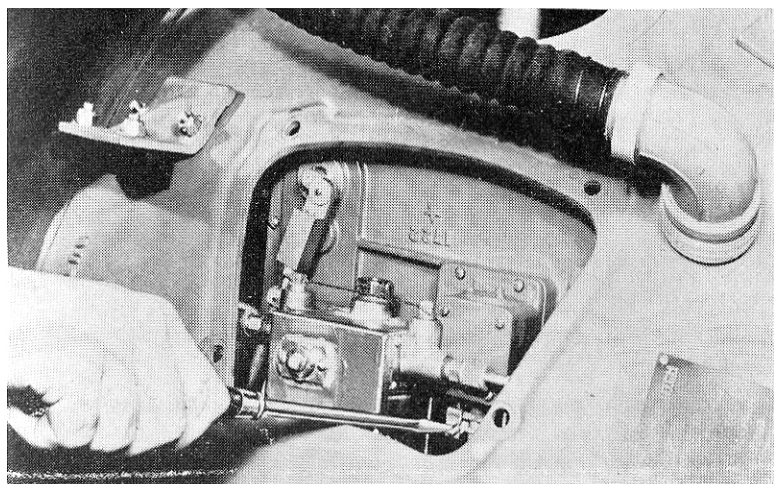

FIGURE 30—Elevation Creep Adjustment
5. With the motor running and the elevation power clutch still disengaged use a screwdriver to turn the thumbscrew worm on the back of the hand control until the hub dial gear on the elevation control shaft stops turning. Reverse the direction of turning and count the half-turns of the thumbscrew worm until opposite maximum is reached. Turn back half way. This should be the approximate neutral position of the Vickers hydraulic unit (see Figure 30).